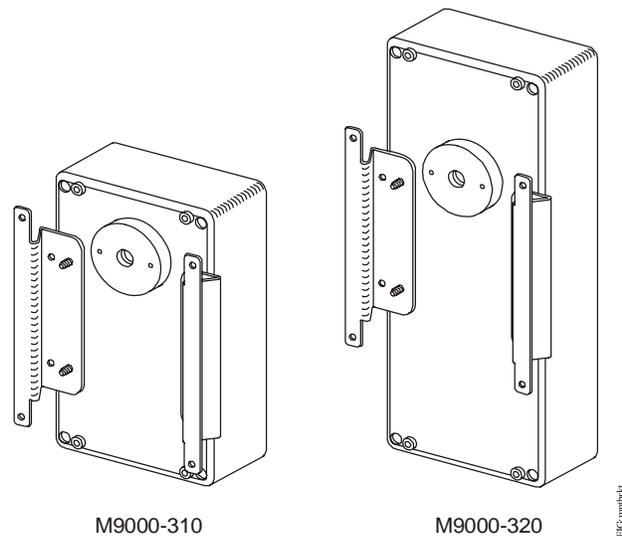

Figure 4: Proper Orientation of the Mounting Brackets onto the Enclosure Base
4. Orient the two mounting brackets onto the enclosure base as illustrated in Figure 4.